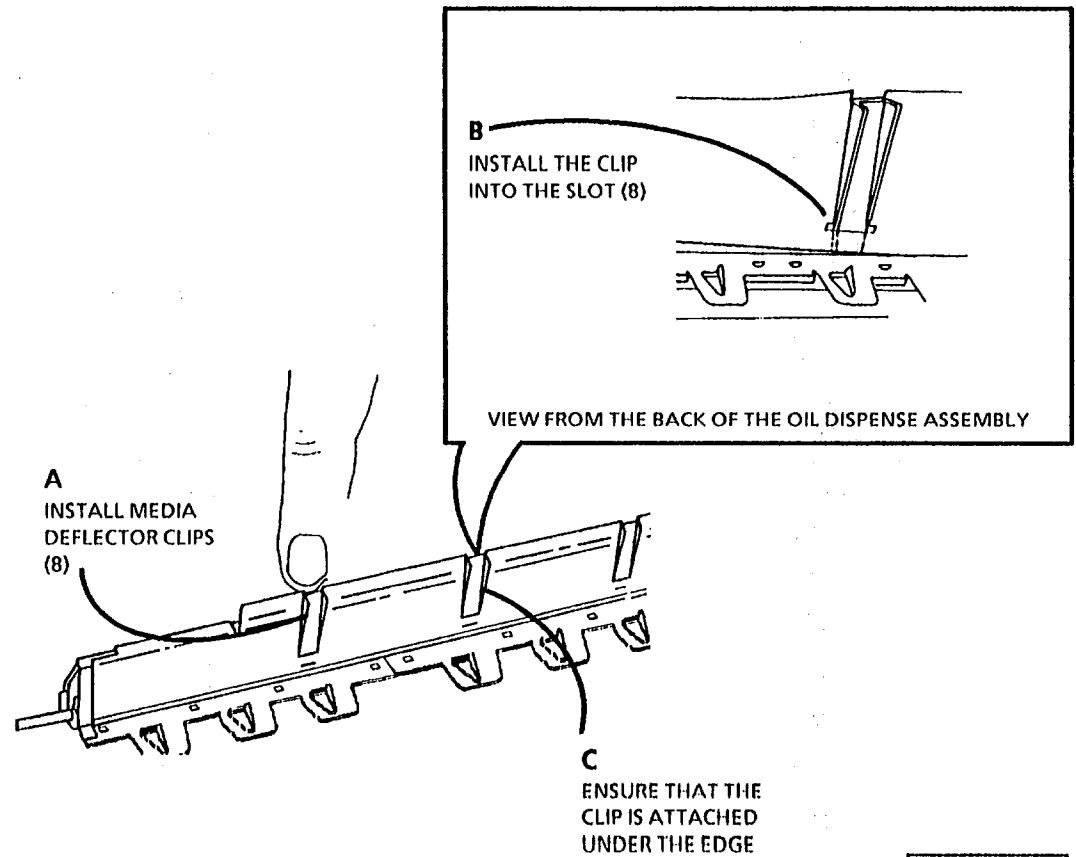

Figure 3. Install the Media Deflector Clips
2. (Figure 3): Install the media deflector clips.